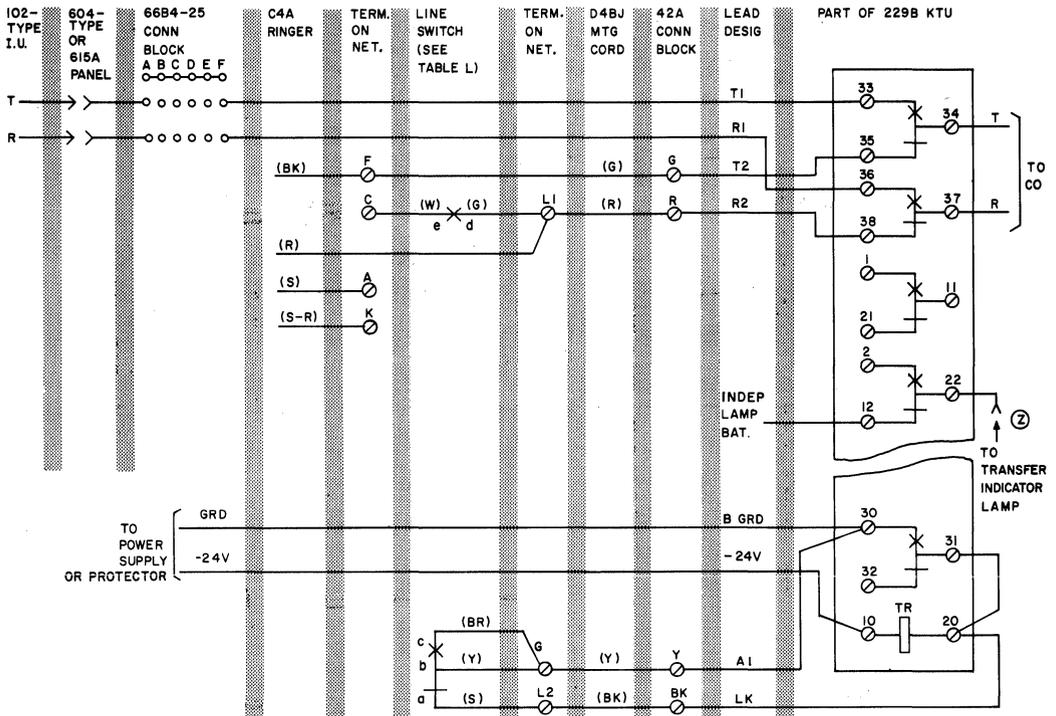

Fig. 15—Power Failure Transfer Circuit (Delayed Restoral)
Power Failure Transfer (Fig. 15 or 16)
3.20 When power failure transfer with delayed restoral is required, the 229B KTU must be mounted externally and wired to the 69G apparatus mounting, 604-type or 615A panel, and selected telephone set as shown in Fig. 15 and Table L. Replace the D3BN mounting cord with a D4BJ
C. **Power Failure Transfer (Delayed Restoral, Fig. 15)**
6.05 For connection information using the power failure transfer circuit with delayed restoral, refer to Fig. 15 and Table L. Replace the D3BN mounting cord of the 500C/D telephone set with a D4BJ cord.